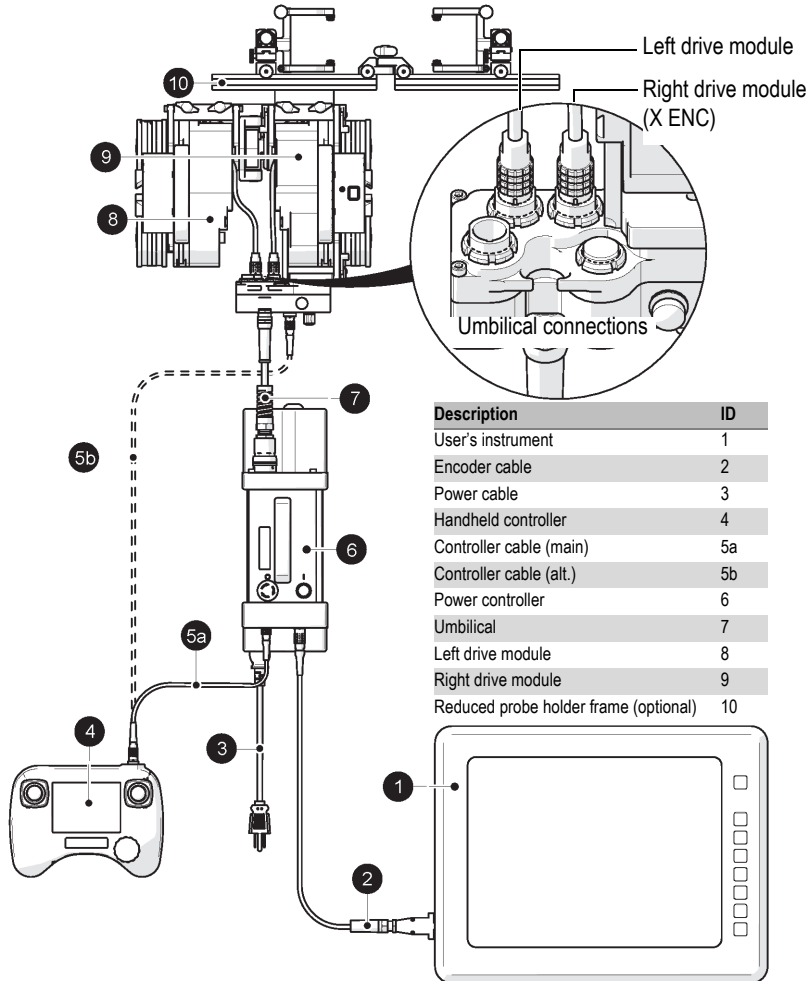

Figure 3-5 Pivoting probe holder frame (optional) configured for flange scanning
1. Mount and connect the umbilical to the right drive module of the SteerROVER scanner (see Figure 3-5 on page 162).